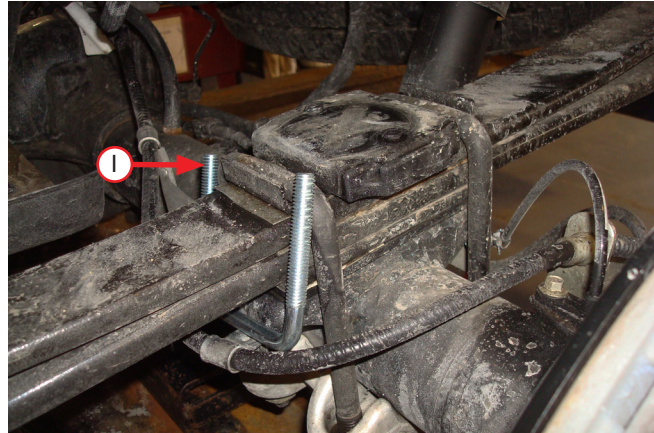

Fig. 11
1. Starting on the driver's (left) side, set a U-bolt (I) into position under the leaf spring, forward of the axle. This will rest on top of the emergency brake cable as shown (Fig. 11). Repeat for the passenger's (right) side.